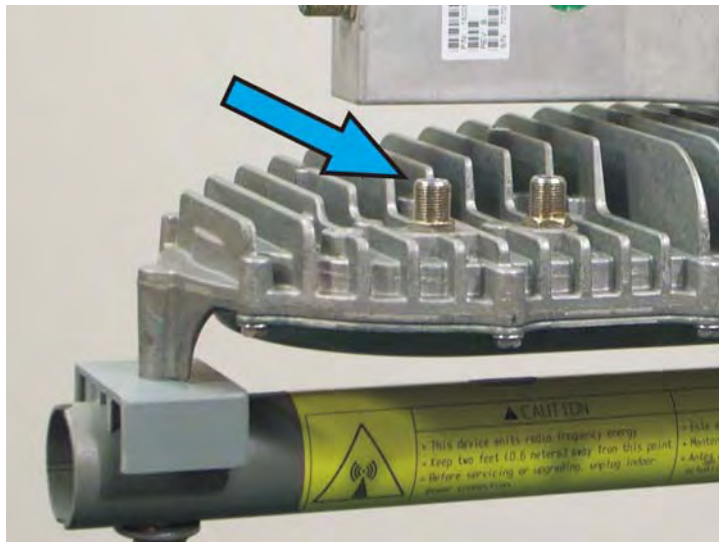

Figure 29: Transmit connector
2. Connect the Tx cable (marked with blue electrical tape) to the transmitter connector marked *IFL*, shown in Figure 29.